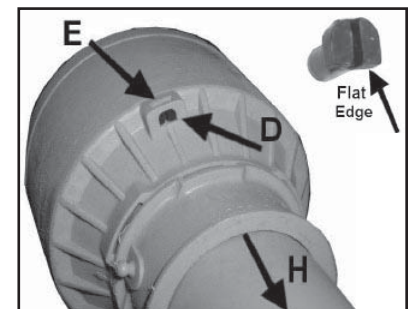
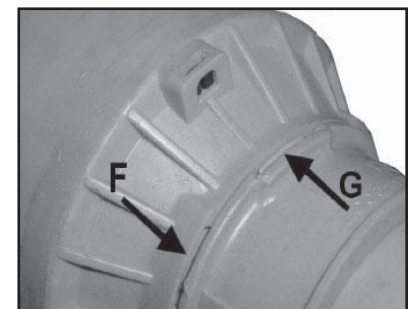

Figure 3
Figure 4
1. First you must locate the black tab (Ref. D, Figure 3) put flat screwdriver in slot in end of tab and turn until the flat side is pointing towards center of shaft. Once you do this take the thin flat screwdriver and put into slot labelled (Ref. E, Figure 3) pry tab all the way out as shown in (Figure 3).
2. There are 3 white tabs around the cover as shown in (Ref. G, Figure 4). You must line up cover slots and tabs (as shown in Figure 4, Ref. F & G). Take a screwdriver and press against the tabs one at a time with downward angular pressure toward the end of shaft. As you are pressing tab grasp cover and apply pressure against cover in the direction of arrow, (Ref. H, Figure 3). Do this for each tab. (Sometimes the other tabs may relock, if they do you must repeat unlock procedure.) You will feel it click when the tab releases, after all 3 tabs are released you can slide the cover down the shaft in direction of (Ref. H, Figure 3).